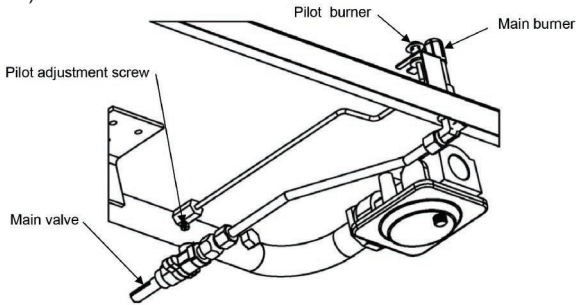

Figure 4
Align bottom of Shelf to approx. 6" minimum from bottom of Bullet Foot. Insert Allen Head Set Screws into adjustable shelf corner and tighten (Figure 4).
(Figure 4)
Place Poly Cutting Board on Shelf by aligning the holes with the Acorn Nuts (Figure 4). Tighten all bolts on the two brackets.
2. After waiting 5 minutes, open the main gas valve and place a lighted match at each pilot and adjust the pilot to a height of at least 5/8 inches. This can be performed by taking a screwdriver and placing it in the pilot adjustment screw slot and turning it. Turn the screw counter clockwise to increase the pilot flame, or clockwise to make decrease it. (See Figure 4)